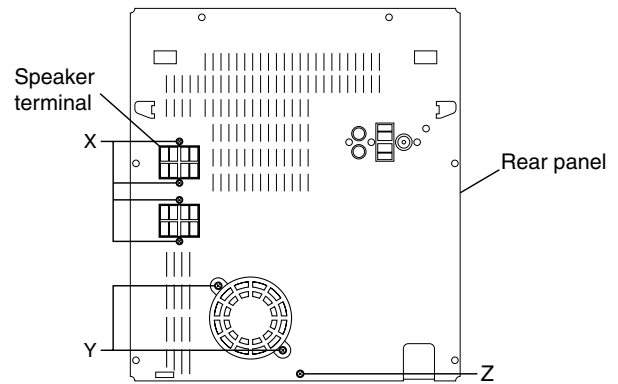

Fig.33
- Also remove the rear panel and power amp and supply PCB. (See Fig.33 to 37)
■ Removing the power amp and supply PCB and the power trans PCB (See Fig.33 to 37)